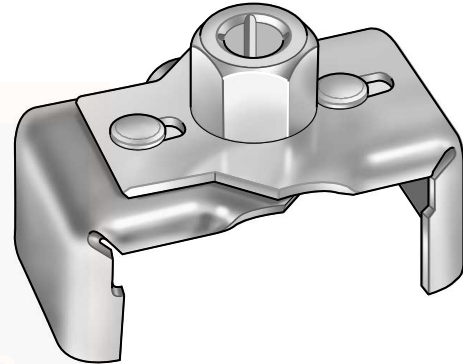

Figure 25. Oil Filter Wrench (Part No. HD-42311)
4. See Figure 25. Remove the oil filter using the **OIL FILTER WRENCH** (Part No. HD-42311 or HD-44067) . Clean the oil filter mount flange of any old gasket material.